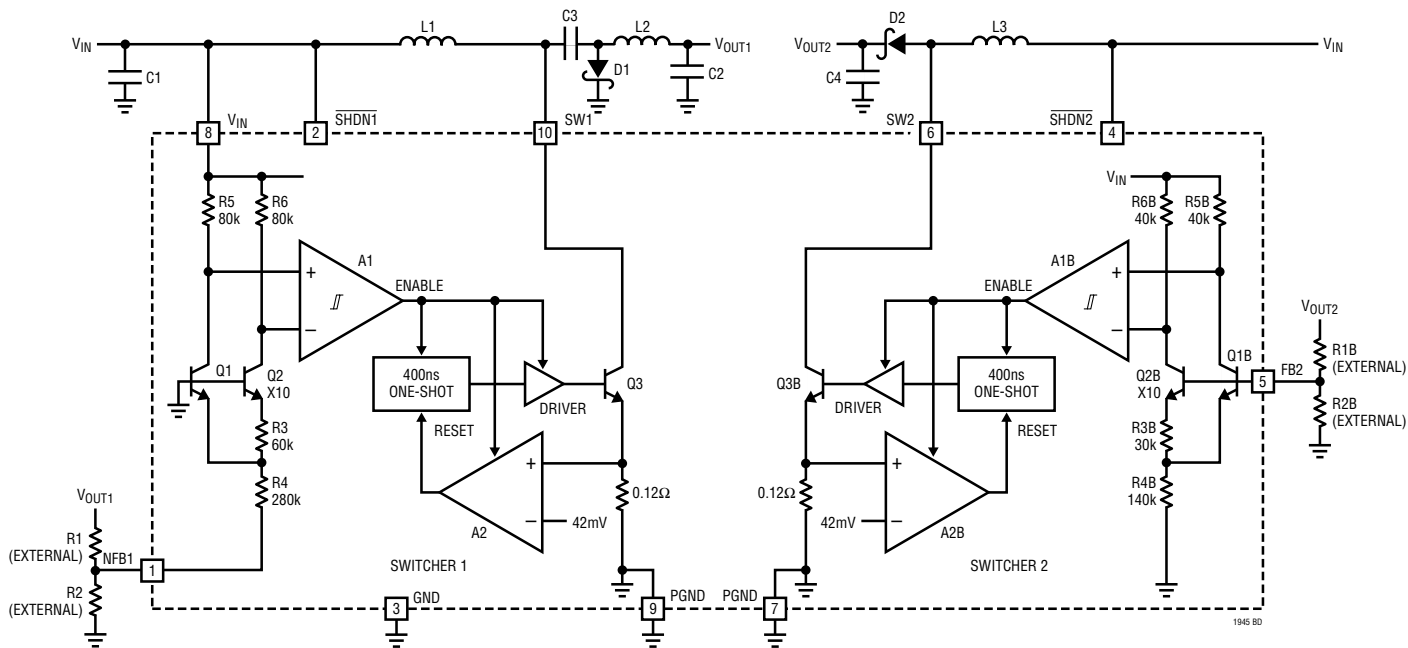

Figure 1. LT1945 Block Diagram
**Note 5:** See Figure 1 for Switcher 1 and Switcher 2 locations.
The LT1945 uses a constant off-time control scheme to provide high efficiencies over a wide range of output current. Operation can be best understood by referring to the block diagram in Figure 1. Q1 and Q2 along with R3 and R4 form a bandgap reference used to regulate the output voltage. When the voltage at the NFB1 pin is slightly below  $-1.23\text{V}$ , comparator A1 disables most of the internal circuitry. Output current is then provided by capacitor C2, which slowly discharges until the voltage at the NFB1 pin goes above the hysteresis point of A1 (typical hysteresis at the NFB1 pin is  $8\text{mV}$ ). A1 then enables the internal circuitry, turns on power switch Q3, and the current in inductors L1 and L2 begins ramping up. Once the switch current reaches  $350\text{mA}$ , comparator A2 resets the one-shot, which turns off Q3 for  $400\text{ns}$ . L2 continues to deliver current to the output while Q3 is off. Q3 turns on again and
Set the output voltage for Switcher 2 (positive output voltage) by choosing the appropriate values for feedback resistors R1B and R2B (see Figure 1).